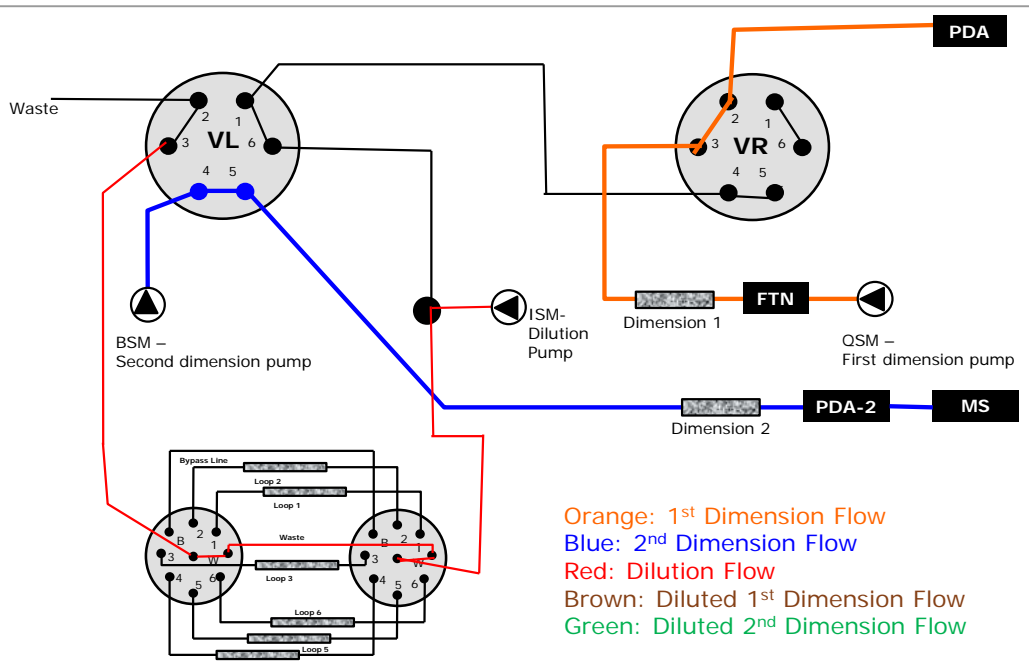

Figure 2. Sample Injection.
- Figure 34 from first chromatographic column continues with with VR diversion to waste. When the next desired time segment is reached, the configuration shown in Figure 2 is repeated.